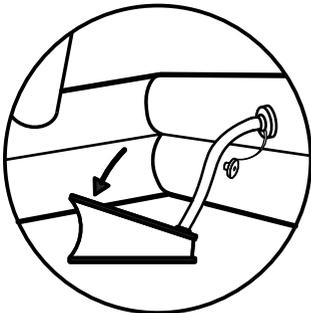
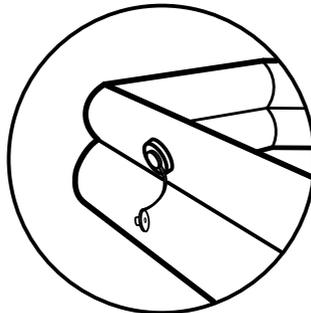
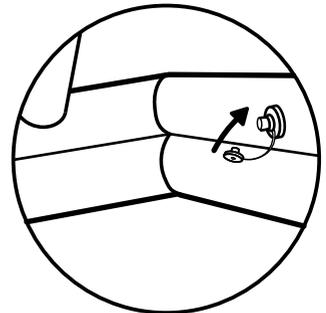

Fig 6 - Use the pump to top up the chambers
Fig 7 - Ensure pressure relief valves are not blocked
Fig 8 - Secure the sealing caps
6.2.2 Locate the pump, fit to the top up valves located near the entrance to the liferaft. Use the pump to top up the chambers (Fig 6). Ensure the relief valves are not blocked (Fig 7) when this is done. Once this has been completed, remove the pump and replace the sealing cap securely (Fig 8).